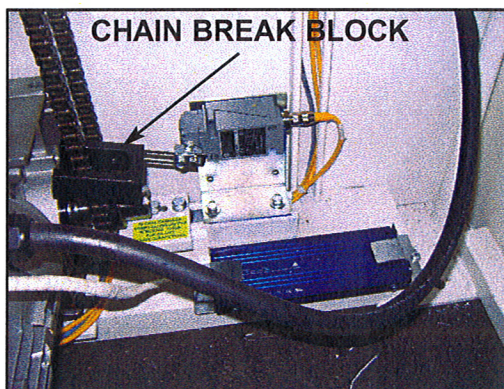

Figure 29
3. Make sure chain break block does not hit reducer before actuating. See Figure 29.